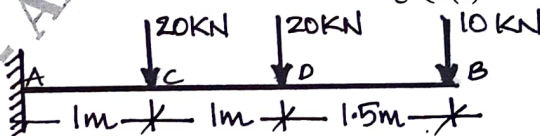

Fig Q3(a)
- 3 a. Draw BMD and SFD for the cantilever beam shown in Fig Q3(a)